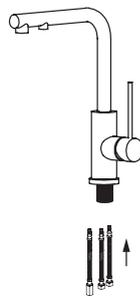

Fig. 2
2. Connect standard flexible hoses and potable water hose to the faucet (fig. 2).